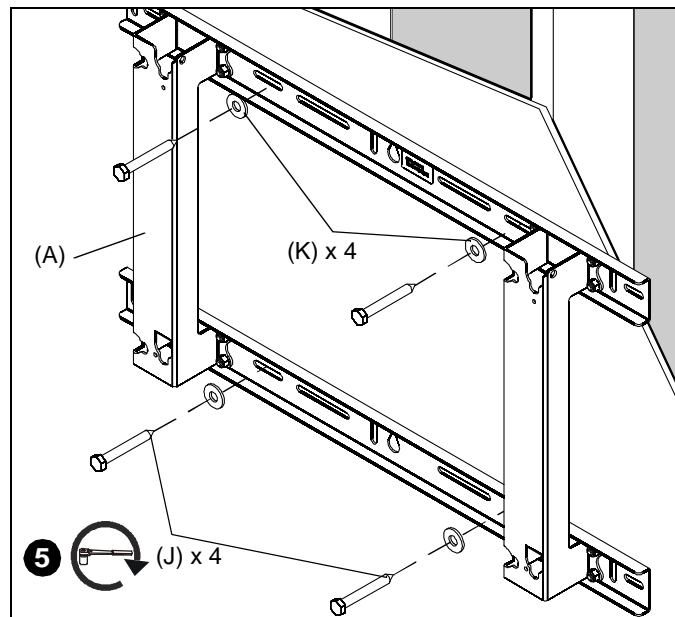

Figure 3
5. Secure wall mount (A) to studs using four 5/16 x 2-1/2" hex head lag screws (J) and four 5/16" flat washers (K). (See Figure 3)